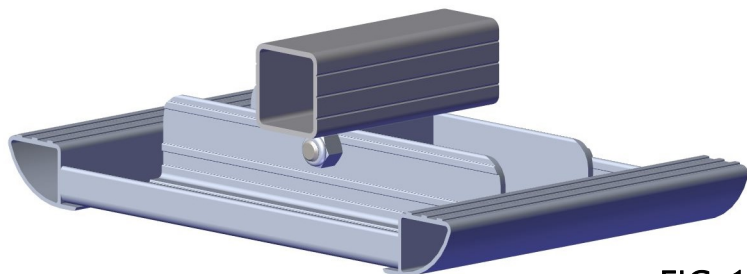

FIG. 1
- TORQUE ½-13 NYLOCK NUT TO 25 FT-LBS (FIG. 1)